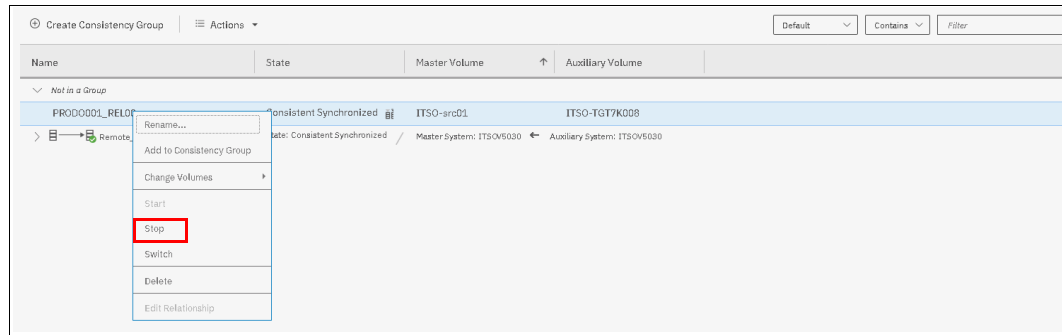

Figure 10-117 Stop remote copy relationship
- In the table, select the remote copy relationship to stop and right-click **Stop** (as shown in Figure 10-117 on page 587) to stop the remote copy process.